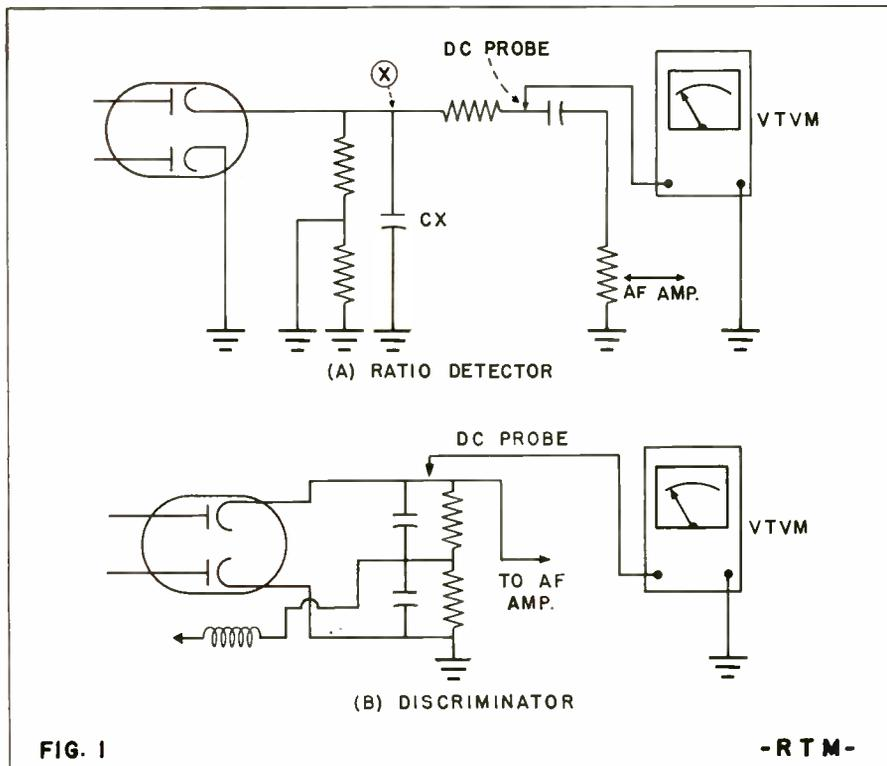

FIG. 1
For this check, a signal generator covering the FM carrier frequencies, and a DC VTVM will be required. With the receiver switched on, (1) set the DC VT voltmeter to its 3-volt range and connect its DC probe to the load resistor of the second detector (See Fig. 1). (2) Connect the signal generator to the antenna input terminals of the receiver. (3) Tune the receiver and signal generator (with internal modulation switched off) to any carrier frequency in the FM band. 100 megacycles makes a good test point. (4) If the receiver stages are aligned, the meter deflection will be zero, because the generator is tuned exactly to the receiver carrier frequency setting. The meter will deflect upward (positively) as the generator frequency is increased above the carrier